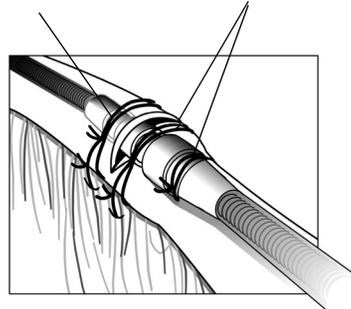

Figure 23. Using the sleeve with the venous cutdown technique.
1. Slide the suture sleeve into the vein past the most distal groove. Ligate the vein around the suture sleeve to obtain hemostasis. Next, using the same groove, secure the lead and vein to the adjacent fascia (Figure 23).